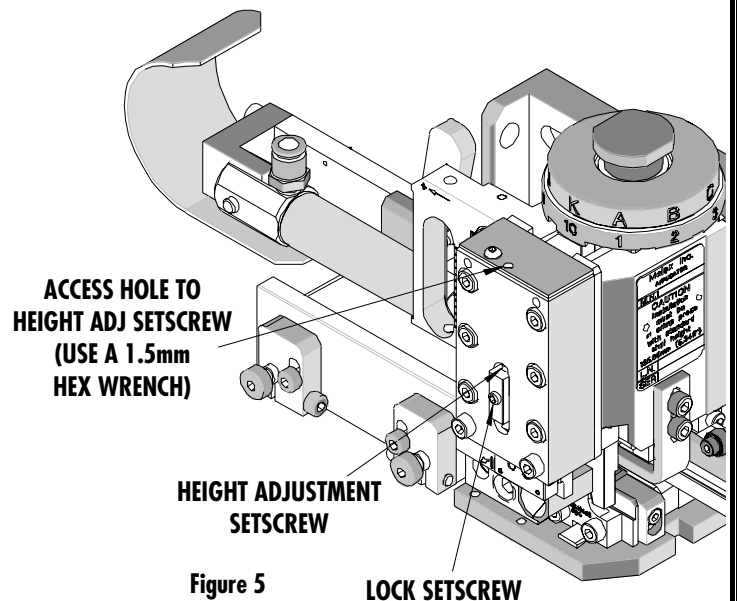

Figure 5
3. The height adjustment screw is accessed through the hole on the top of the slide. Using a 2mm hex wrench, turn the adjustment screw clockwise to raise the funnel or counter-clockwise to lower the funnel. Proper adjustment should result in the insulation guide hole being concentric with the terminal barrel. See Figure 5